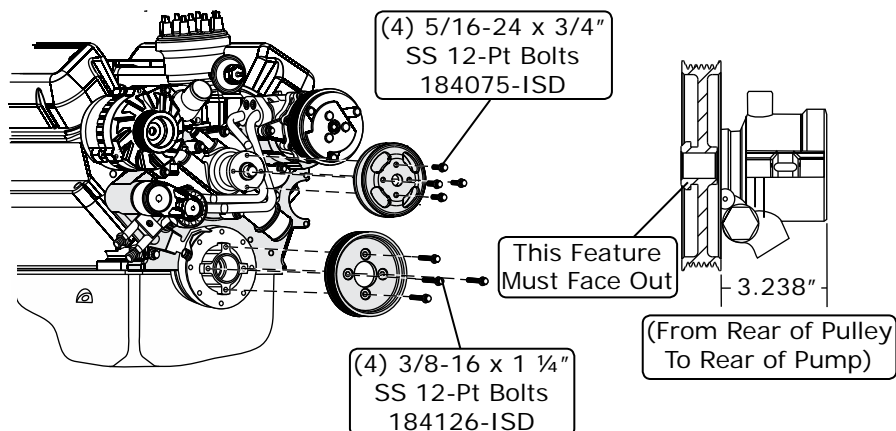

Figure 10
1. Install the crankshaft pulley using (4) 3/8-16 x 1 1/4" SS 12-Pt bolts as shown in Figure 10, below. Torque to 25 lb ft.
2. Install the water pump pulley using (4) 5/16-24 x 3/4" SS 12-Pt bolts as shown in Figure 10, below. Torque to 22 lb ft.